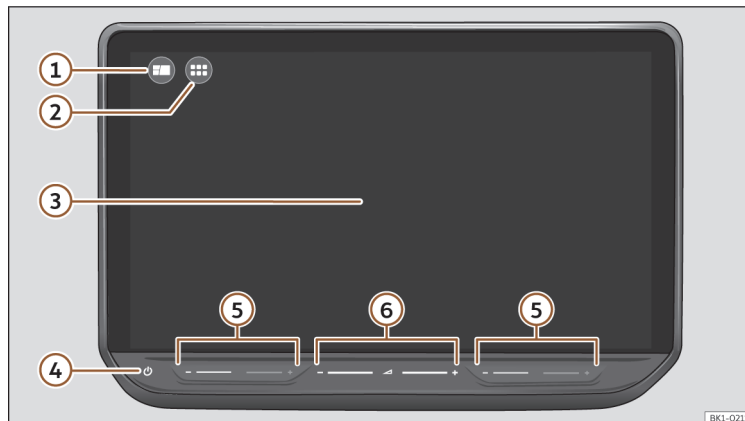

Fig. 155 Overview: control unit
Customise the top menu or the HOME >>> **Fig. 155** ① view to quickly access your favourite or most frequently used functions.